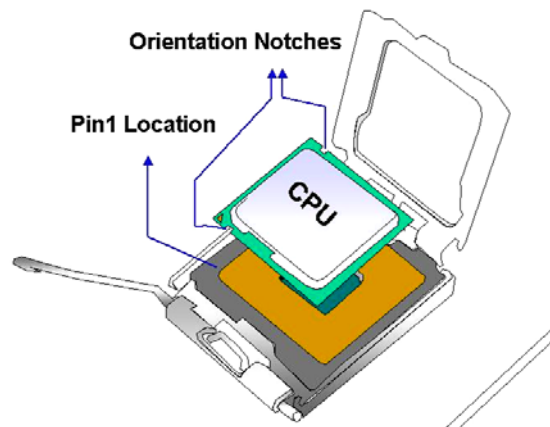

Figure 4-4: Insert the Socket LGA775 CPU
Step 7: Insert the CPU. Gently insert the CPU into the socket. If the CPU pins are properly aligned, the CPU should slide into the CPU socket smoothly. See Figure 4-4.